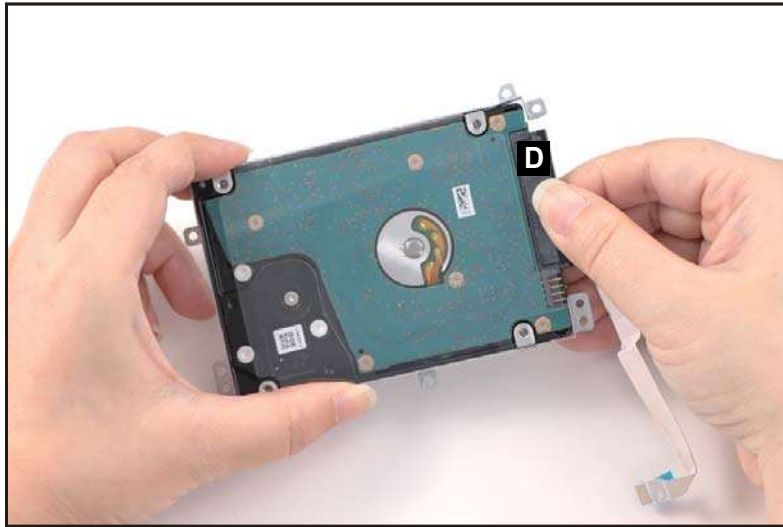

Figure 3-36. HDD Module Removal
4. Disconnect the HDD cable from the HDD module connector (D) (Figure 3-36).